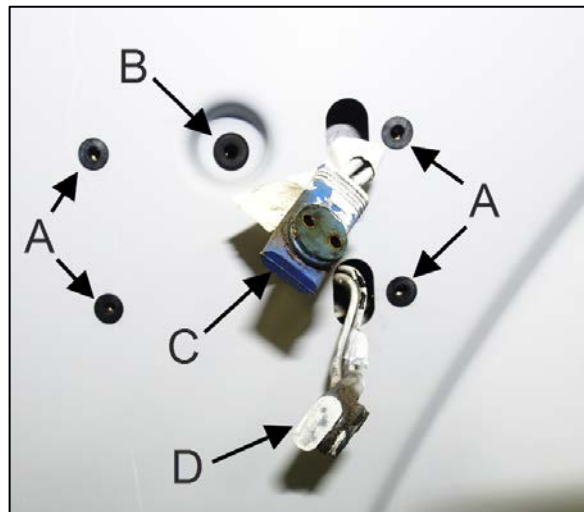

FIGURE 12
20. Install four new rubber nuts (item A, Figure 12).
21. Install new grommet PN 504529 (item B, Figure 12).